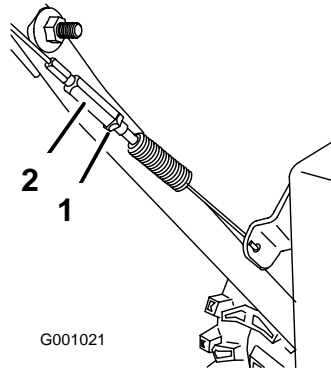

Figure 45
3. Tighten the jam nut (Figure 45).